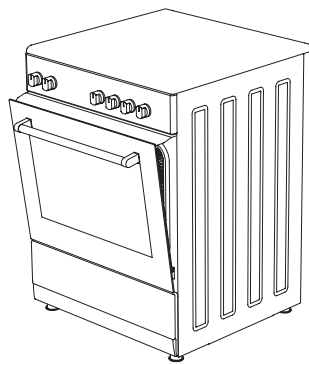

Figure 31
4. And then secure the safety panel in between oven and front cover by gently closing the cover. (figure 31)